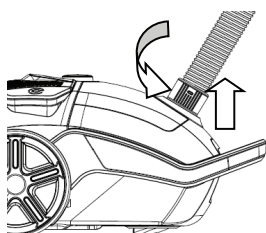

Fig. 2
Turn bayonet lock end of the suction hose (16) counterclockwise to unlock the bayonet lock. Pull out the bayonet lock end of the suction hose (16) from the suction hose receptacle (4) (Fig 2).